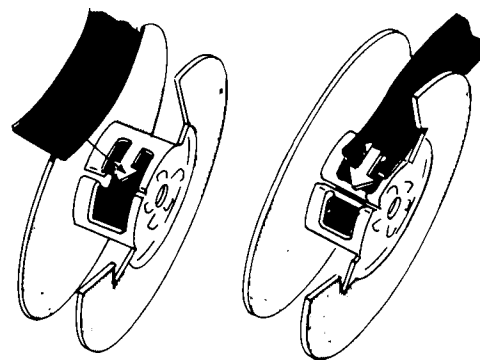

Figure 3-7 Attachment to Spool
(3) If your replacement ribbon has a new takeup spool preconnected to it, proceed to Step 4. If the spools are not preconnected to the ribbon, do the following:
- Engage the hook at the end of the ribbon over the protruding arrow in the hub of the empty spool. If no hook is available, pierce the end of the ribbon over the point of the arrow (see Figure 3-7).